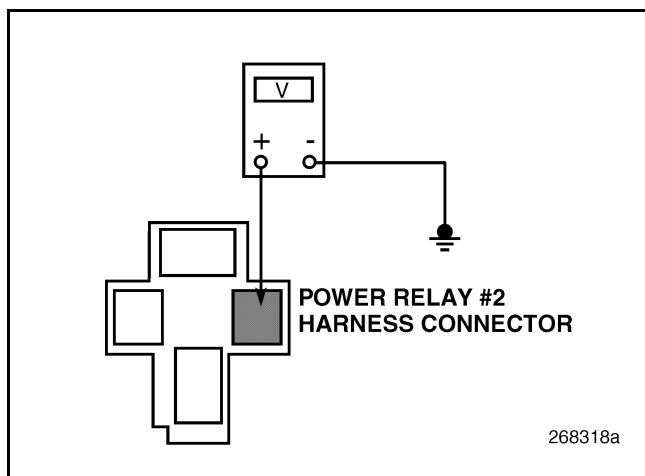

Figure 674
4. Measure the voltage between pin 85 of the Power Relay #2 harness connector and a known good ground (see Figure 674).